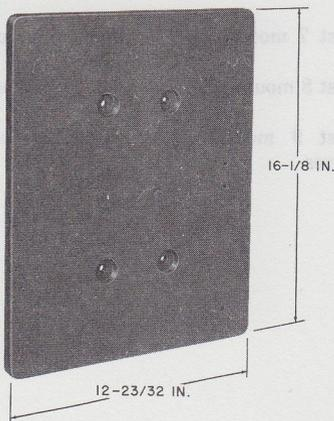

Fig. 18—173A Backboard
5.01 The 173A backboard (Fig. 18) is designed to mount one or two 15A apparatus mountings. The backboard is made of wood and finished in light olive gray.